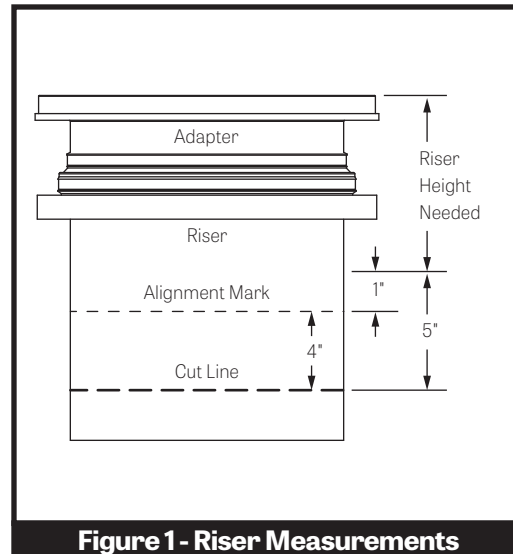

Figure 1 - Riser Measurements
2. Remove covers from adapters. Remove adapters from main unit. On a level surface, pre-assemble the risers and adapters, adjusting the components upwards or downwards to achieve the riser height needed. Make sure to maintain minimum and maximum insertion depths as shown in Figure 2. If components are too long, make a circular line around the sidewall with marker and cut with a power saw. The lowest cut line on the riser assembly will be 5" beyond the riser height needed to allow for ideal insertion depth (See Figure 1). An alignment mark should be drawn 1" beyond the riser height needed which will align with the top of the base unit gasket. **DO NOT** cut the alignment mark. The Adapters and risers should sit level with each other. Tighten upper clamps to keep riser/adaptor assembly from shifting. Make alignment marks on the sidewalls at the top of all riser gaskets to aid final assembly.